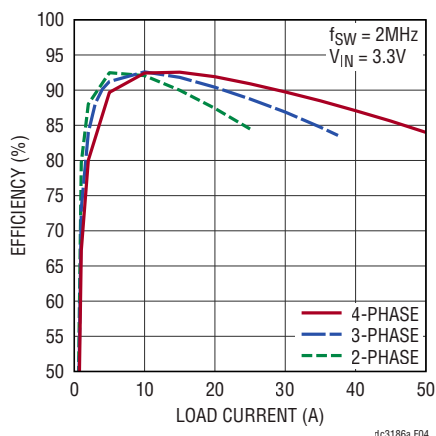

Figure 5. Efficiency vs Load Current
9. Measure the I\_STEP voltage to observe the current,  $V_{I\_STEP}/10m\Omega$ . Adjust the amplitude of the pulse to provide the desired transient. Adjust the rising and falling edge of the pulse to provide the desired ramp rate. Figure 5 shows a load step from 10A to 20A in 1 $\mu$ s. Refer to the following equations: